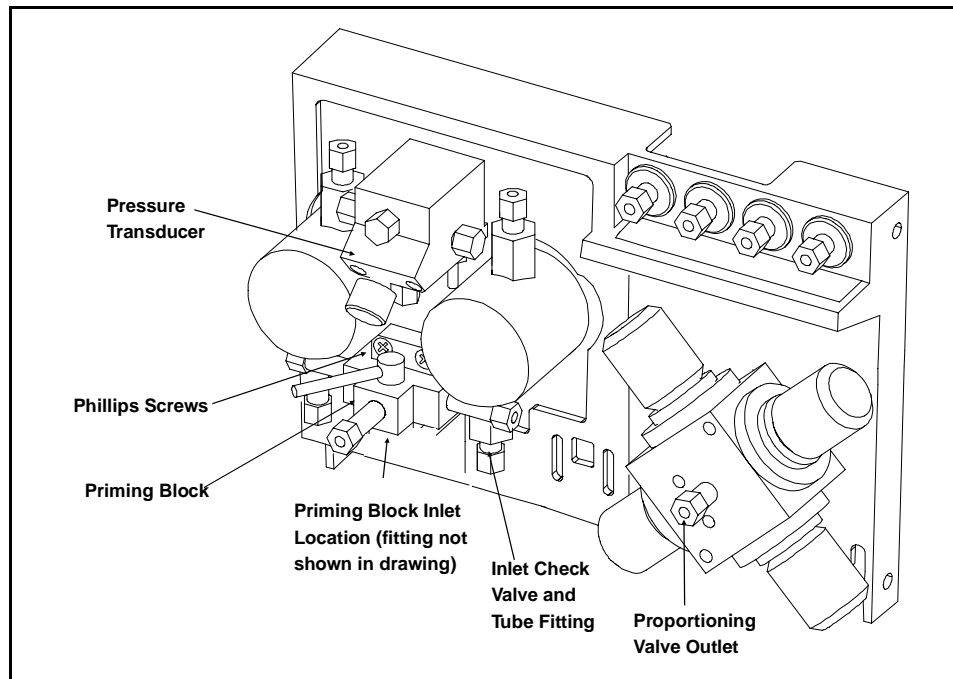

Figure D-7. Location of Priming Block
3. Use a 1/2-in wrench to loosen the two pump head inlet check valves (see Figure D-7). **Carefully** remove the valve bodies and set them aside **in an upright position**.
5. Remove the two Phillips screws holding the priming block in place (see Figure D-7).
- e. Connect a 10 mL syringe (P/N 016387) to the luer adapter on the priming block. Move the lever on the priming block all the way to the left to its maximum open position (see Figure D-7).
- a. Open the pressure transducer waste valve (see Figure D-7) by turning the knob counterclockwise about two turns.